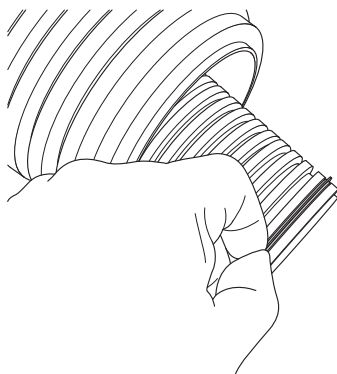

Fig. 22
4. Take one of the 60mm lip seals supplied and fit to the first groove in the flue duct. Also fit the 100mm lip seal to the air duct. (Figs. 22 & 23).